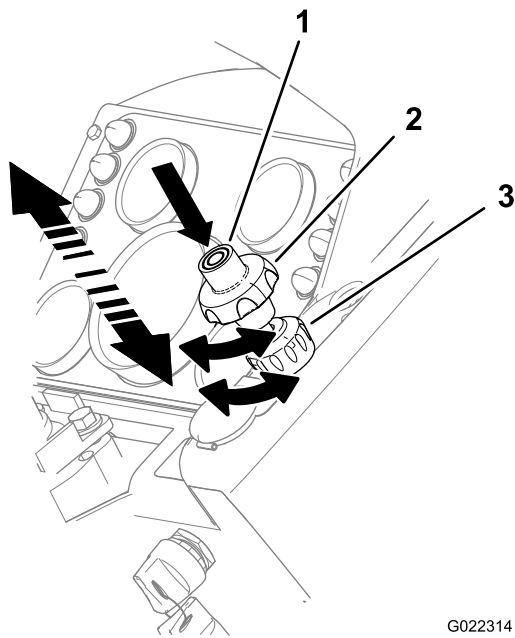

Figure 22
- To **increase** the engine speed, push the throttle center button while **pulling out** the throttle (Figure 22).